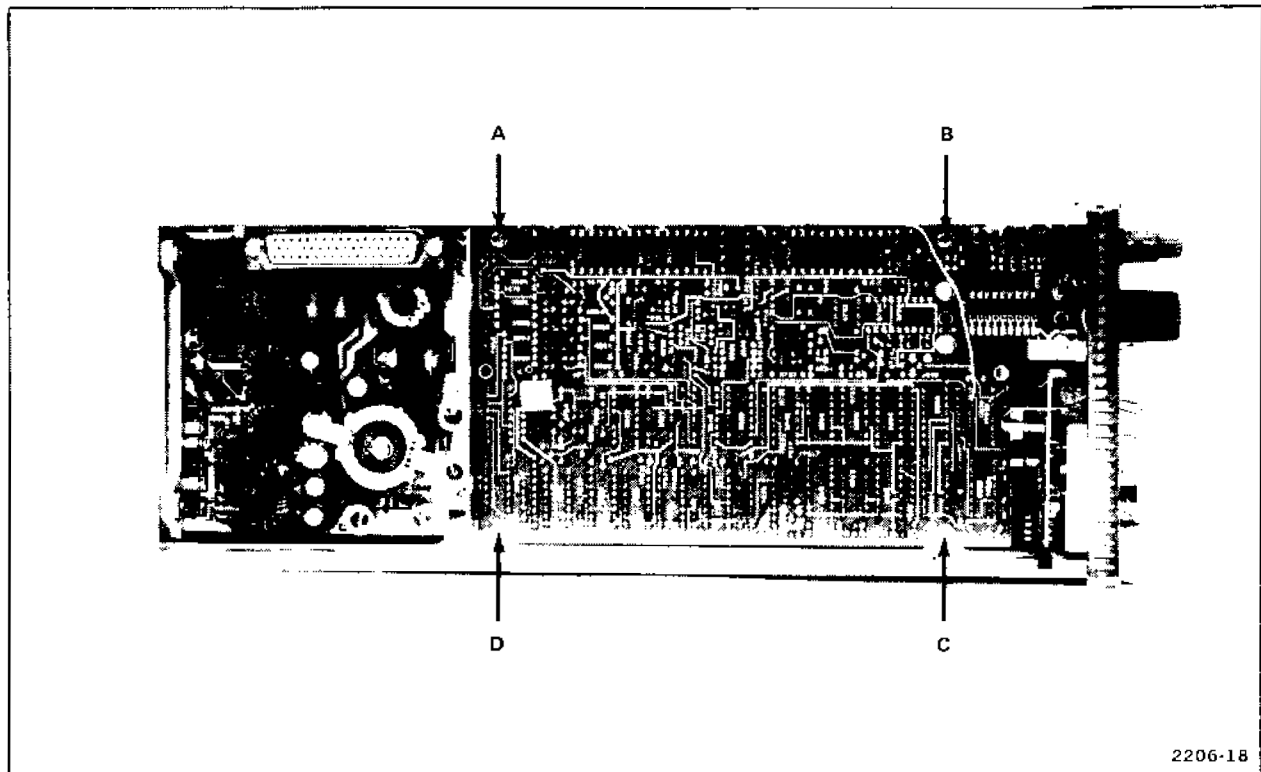

Figure 4-7. Locations of securing screws on the Output circuit board.
4. Remove 4 screws (A, B, C, and D on Fig. 4-7).